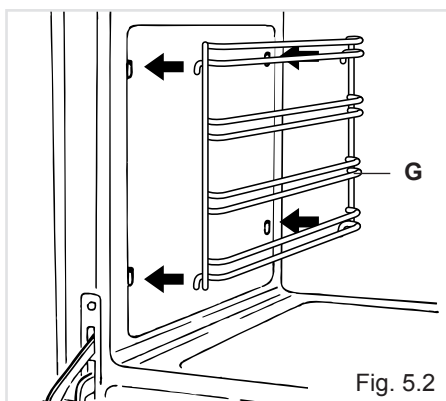

Fig. 5.2
- Hang up the wire racks "G" on the oven walls (fig. 5.2).